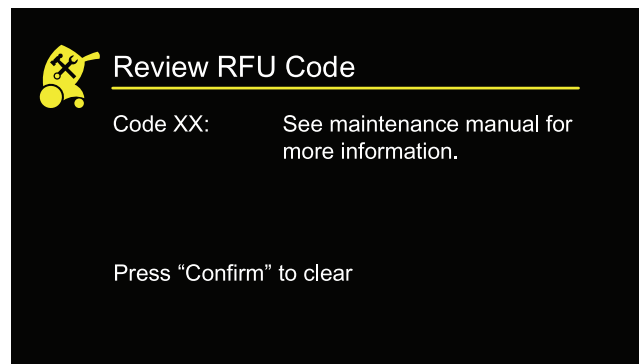

Figure 4: RFU Code
3. To clear the RFU Codes, tap **Confirm** (Figure 4 on page 14).